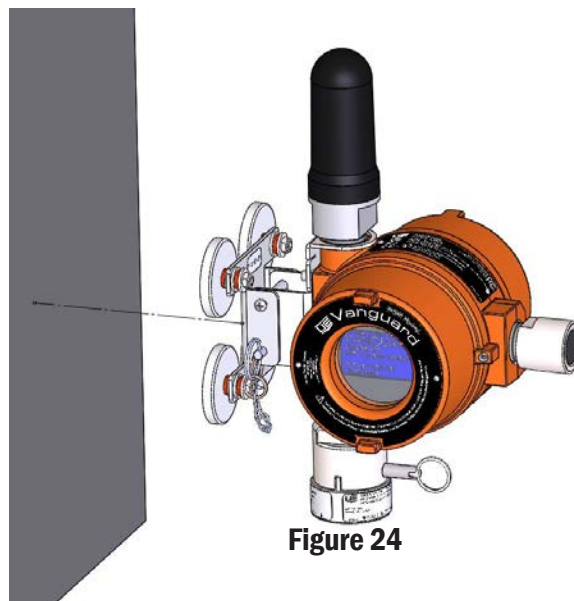

Figure 24
2. Attach device to mounting bracket by hooking onto top pin of mounting bracket plate (see Figure 24).
3. Push attached pin [5] through bottom holes to secure device to the bracket (see Figure 24).
This device sends critical gas concentration information reliably and securely via WirelessHART communication protocol, version 7.2. Configuration can be completed using the UE Vanguard Configurator Unit, any HART handheld communicator, or directly into the control system using a HART modem. HART terminals are located inside the intrinsically safe battery compartment and are clearly marked (see Figure 24).